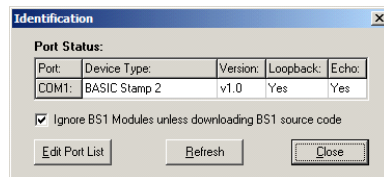

**Figure 2.3:** Test your PC connection to the BASIC Stamp.
- c) Test your PC's connection to the BASIC Stamp by selecting Run → Identify from the menu bar, as shown in Figure 2.3. If the BASIC Stamp module is not found, check your power and cable connections and retry.